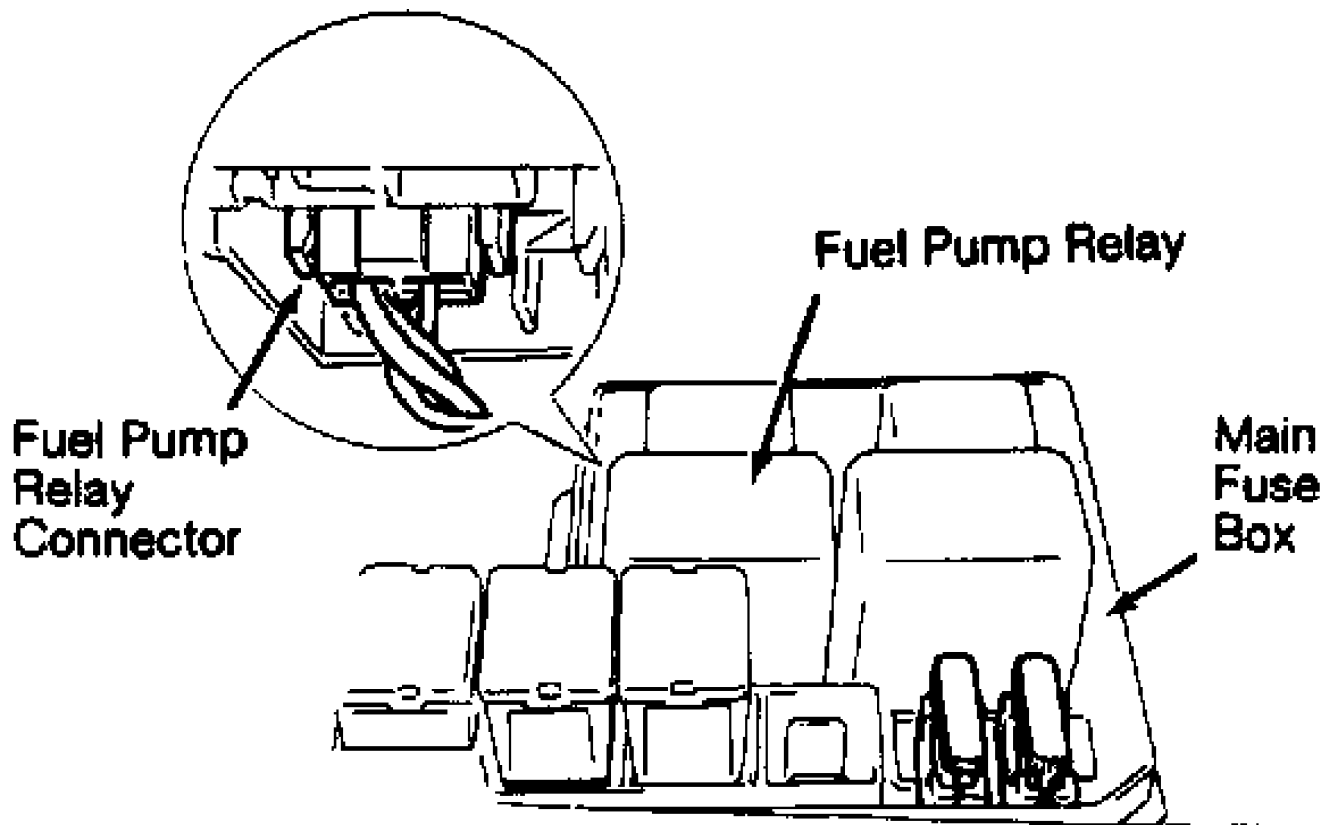

Fig. 3: Locating Fuel Pump Relay (Swift)
4) On Swift, remove engine coolant reservoir from bracket. Remove main fuse box cover, located near battery. Remove main fuse box from body to access fuel pump relay connector. Disconnect fuel pump relay connector. See Fig. 3.